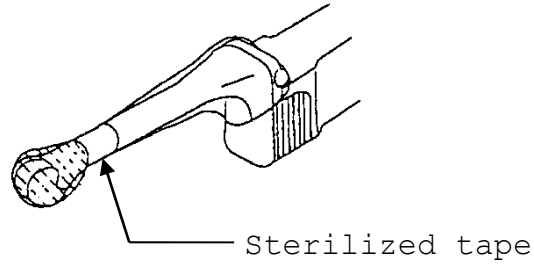

Fig. 5
- 6) Fix jelly on the top of the probe with sterile adhesive tape. (See Fig. 5.)